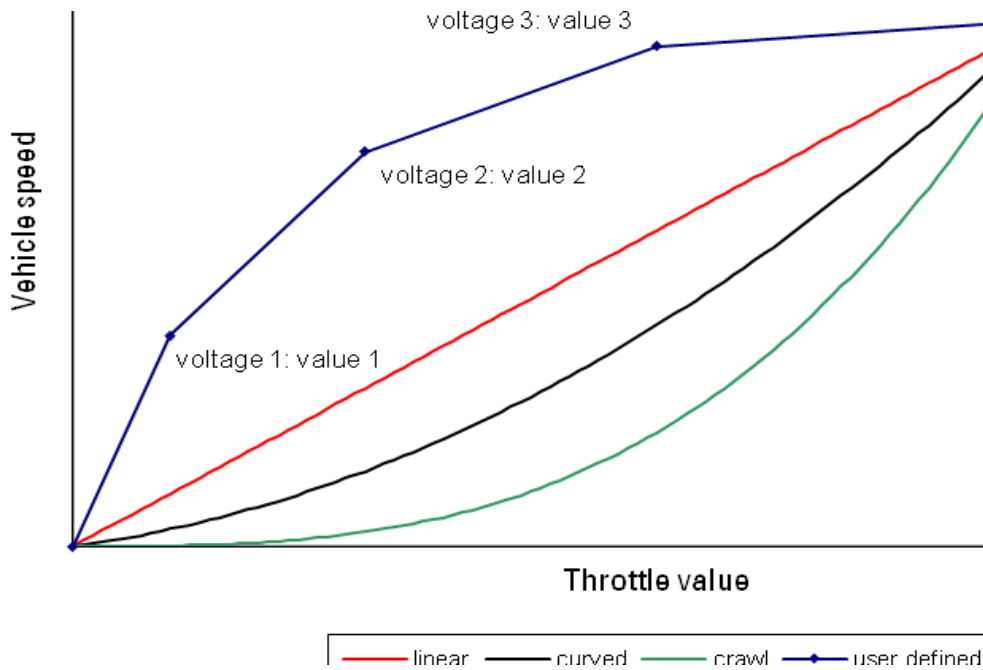

Figure 37 – Input characteristics
- Define the input characteristic: this is a profile to the throttle value and can be linear, curved, crawl or user-defined as shown in Figure 37. The curved and crawl characteristics give greater throttle control at low speeds.